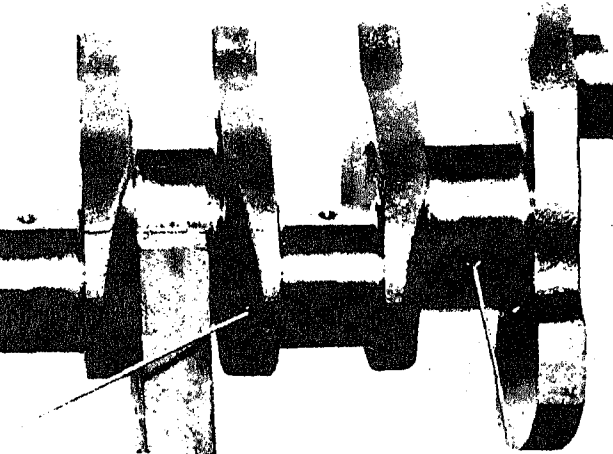

Fig. 1-4-6. Cleaning drilled oil passages
2. Clean all drilled oil passages in crankshaft with a rag as if cleaning a rifle barrel, Fig. 1-4-6.